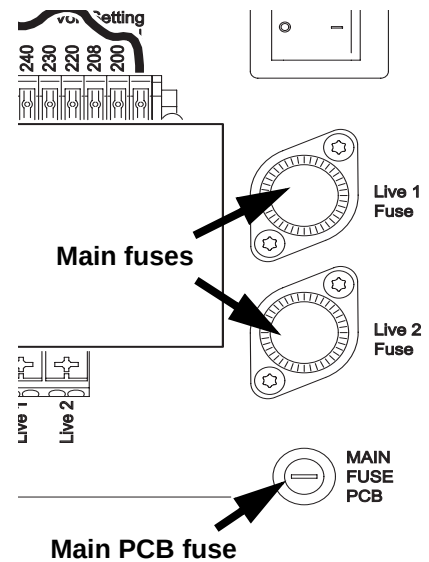

Figure 33: Fuses
3. See Figure 33. The two main fuses are located in fuseholders marked **Live 1** and **Live 2** in the connections compartment. Unscrew the fuseholder caps with your fingers and remove the fuses.